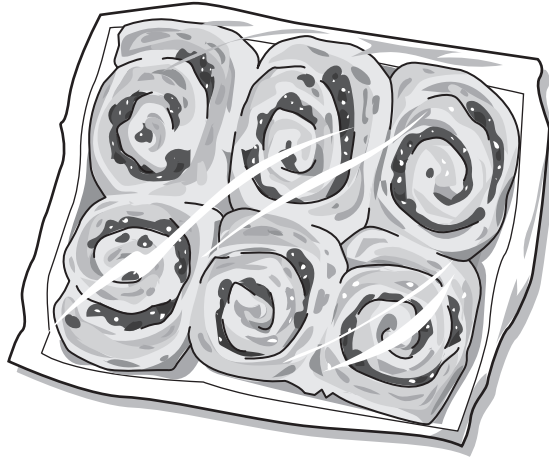

Fig. 3
Fig. 3 shows a pack of six Chelsea buns.
- (a) Give **four** justified design requirements for a pack of six Chelsea buns of the type shown in Fig. 3.
- (ii) Describe in detail how the Chelsea buns in Fig. 3 would be manufactured as a batch of **500**.